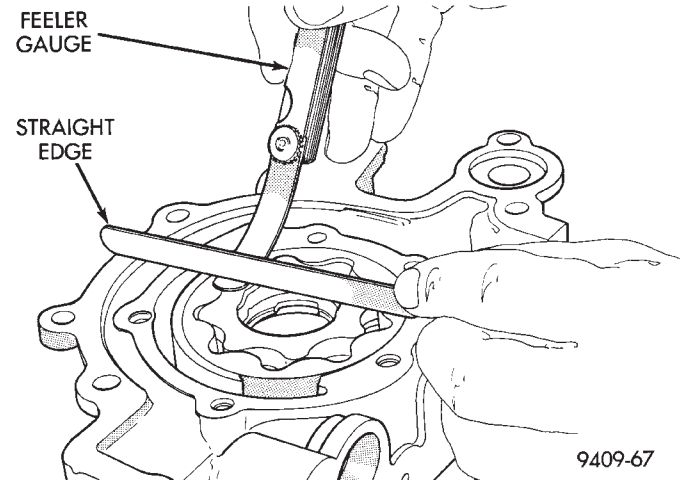

Fig. 116 Measuring Clearance Over Rotors
(7) Place a straightedge across the face of the pump housing, between bolt holes. If a feeler gauge of .102 mm (.004 inch) or more can be inserted between rotors and the straightedge, replace pump assembly (Fig. 116). **ONLY** if rotors are in specs.